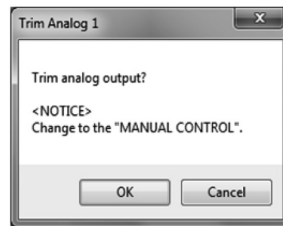

Fig.146
- ③ A message box (Fig. 146) will be displayed. Click the "OK" button to adjust analog output 1.